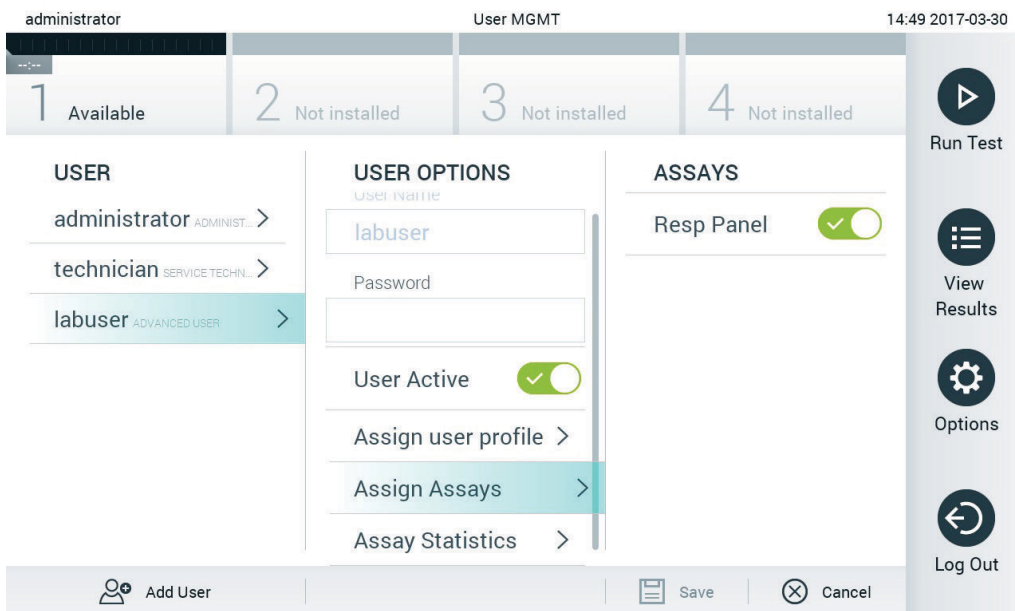

Figure 55. Assigning assays to users.
- **Assign Assays:** Allows defining the assays from the assay database that the user is permitted to run. Select the assays from the list on the right of the content area (Figure 55).